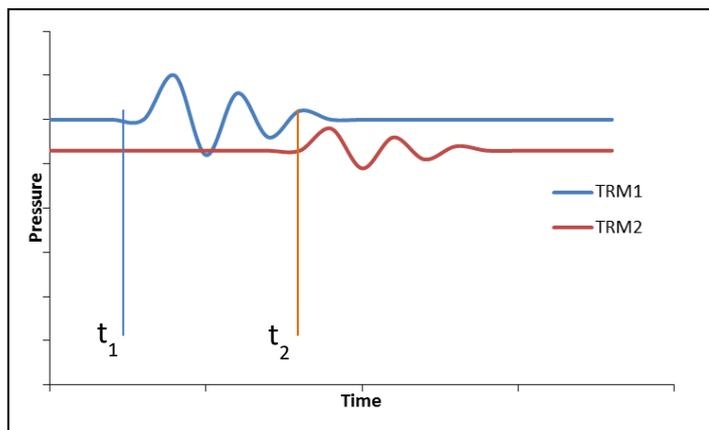

Figure 3: Captured Transient Events
- $(t_1 - t_2)$ = Time difference between two transient edges (s), see Figure 3